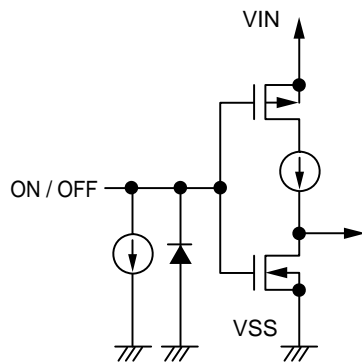

Figure 18
Note that the current consumption increases when a voltage of 0.25 V to 0.1 V ($T_a = 25^\circ\text{C}$) is applied to the ON / OFF pin. The ON / OFF pin is configured as shown in **Figures 18** and **19**.
*1. IC's current consumption increases as much as current flows into the constant current source when the ON / OFF pin is connected to VIN and the S-1313 Series A / C types is operating (**Figure 18**).